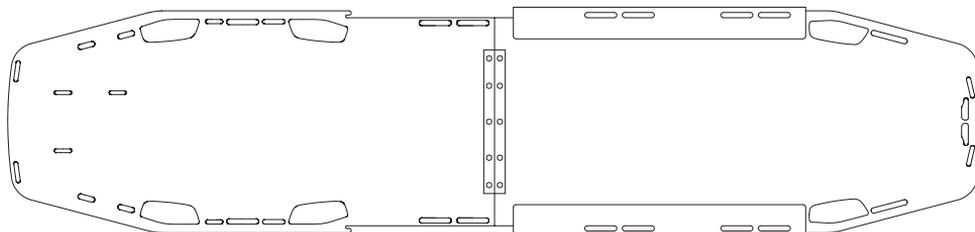

Fig.2
a) Open the spinal board (Fig. 2),